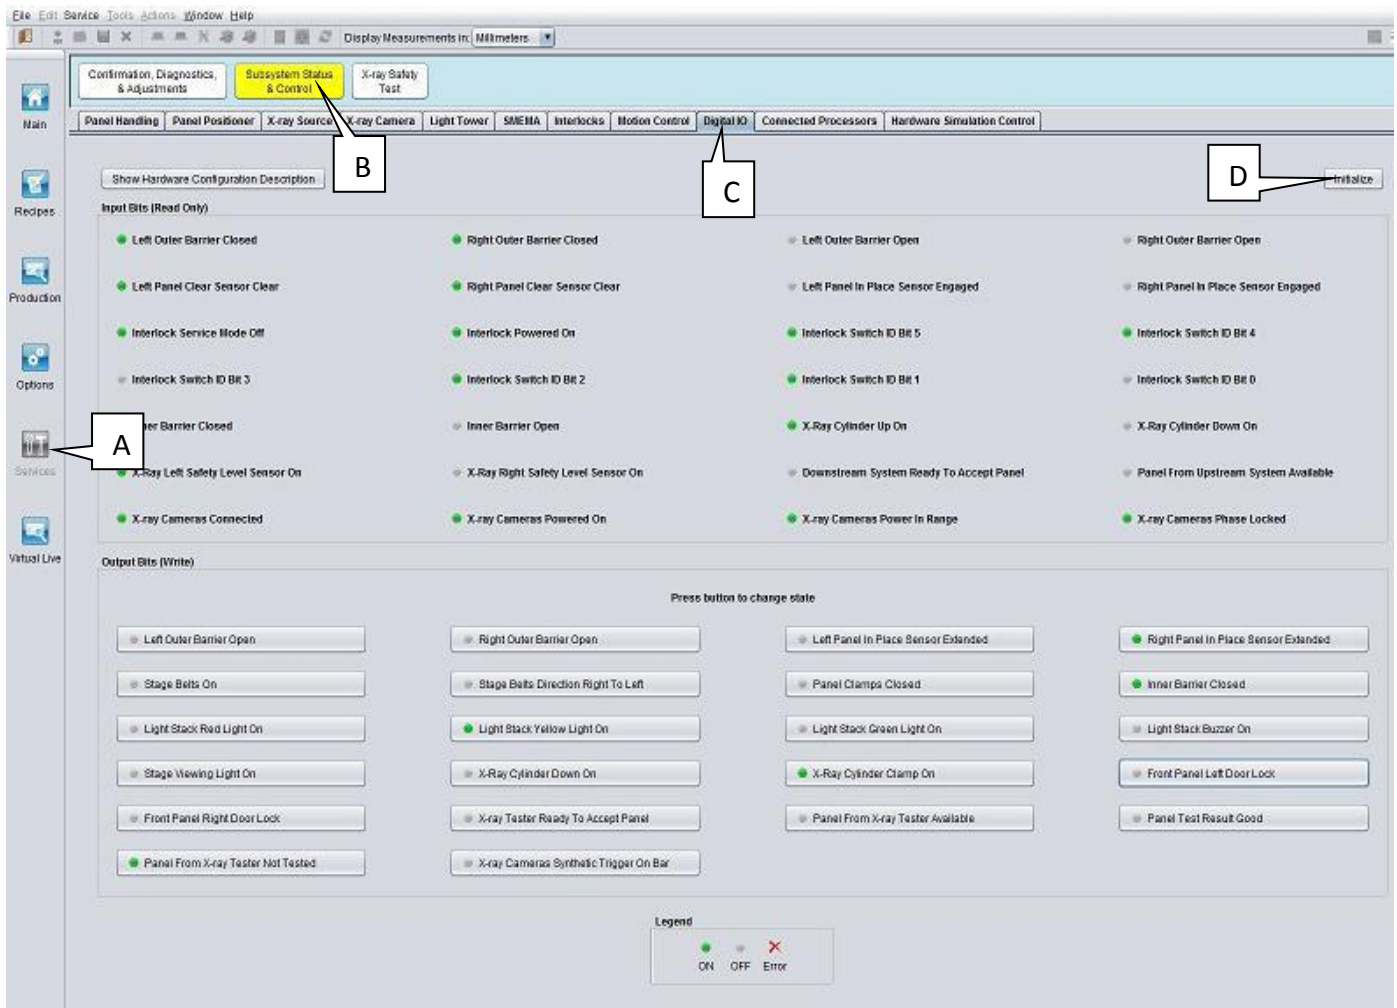

Figure 4
7. Go to Digital I/O tab and initialize as Figure 4.